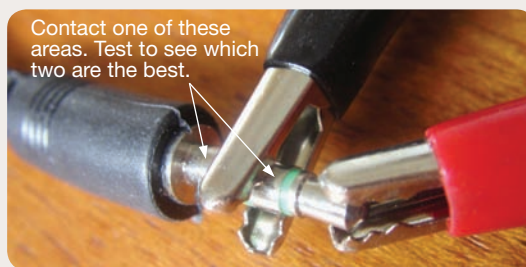

Figure C1.38
- step 1:** Set the digital multimeter to its most sensitive voltage setting so it is capable of measuring a few millivolts. Connect the disassembled headphones to the digital multimeter, as shown in Figure C1.38.